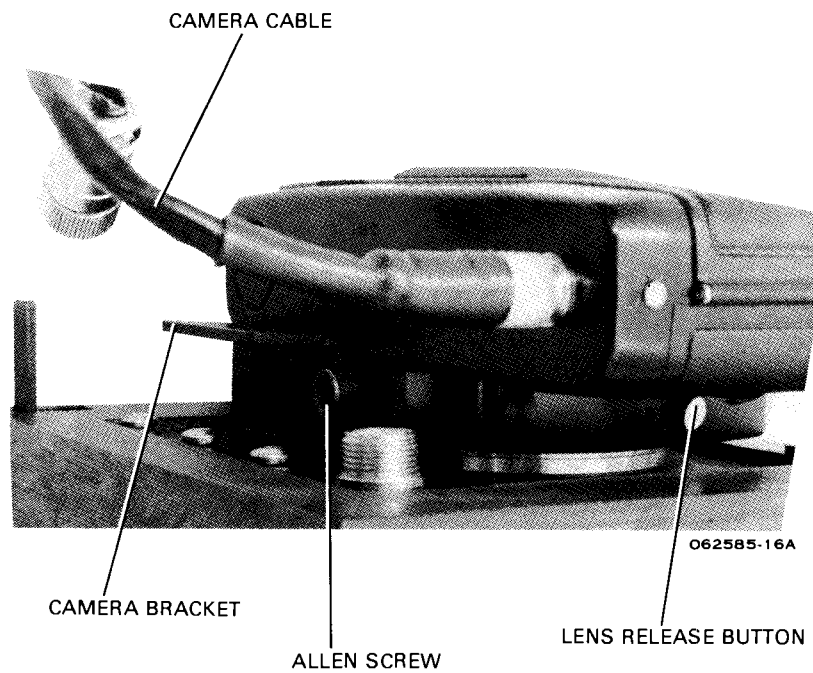

Figure 4-11. 35 mm Camera Removal
- a. Disconnect camera cable and remove large allen head screw (see figure 4-11).
- c. Remove camera by depressing the lens release button and turning the camera counter clockwise (see figure 4-11).